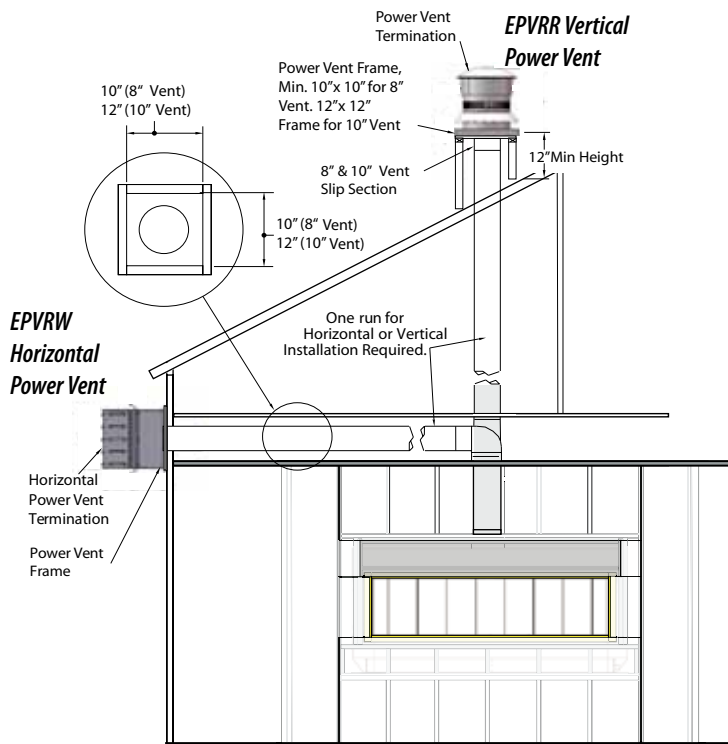

Figure 2. Typical Milan Series Vertical (Top Vent) Power Vent Coaxial configuration.
2. Fasten the termination and its frame in place using a minimum of 4 screws, See *Figure 2* below.